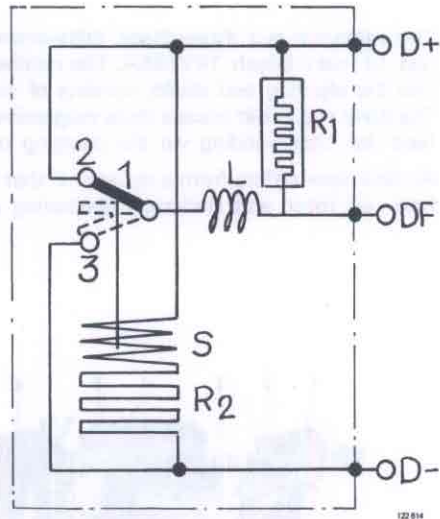

Fig. 32-5. Charging regulator internal wiring
It consists of a contact system which consists of 1, a movable contact, 2, a lower contact, 3, an upper contact, see Fig. 32-5.
When the rotor rotates, alternating current is formed in the rotor. Most of the current is rectified by the positive and negative diodes and the direct current produced is led via the positive diode on the alternator to the battery and a power consumer (consumers) if switched on. A small part of the current is rectified by the magnetizing diodes and is led via 61/D+ to the charging regulator and then onto the rotor winding. The cycle is repeated until the regulating voltage has been reached. When this has been reached, contact is broken between 1 and 2 on Fig. 32-5. This forces the magnetizing current to the rotor winding to pass resistance R_1 , Fig. 32-5. The voltage rises in spite of this, the armature is drawn further down in the voltage coil and the movable contact meets the upper contact (3), Fig. 32-5. This earths the field winding at both ends and the voltage drops. The cycle is repeated continuously so that voltage is maintained constant.